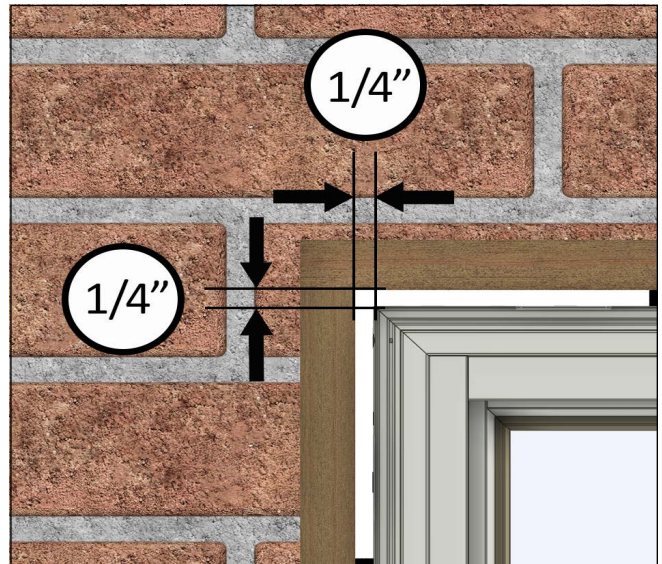

Figure 28
2. The Masonry Openings (MO) should be 1/2" (13) wider and 1/4" (6) higher than the outside measurement of the frame and casing. See Figure 28.